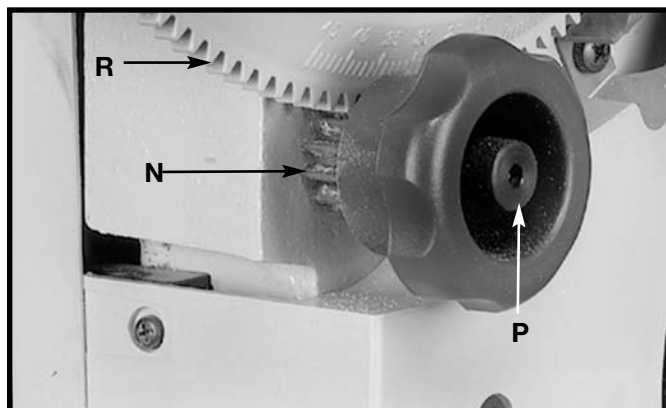

Fig.15
8. Re-assemble the table tilt pinion knob (N) Fig. 15, on the back of saw so that the teeth on the pinion knob (N) engage the teeth on the trunnion (R). Fasten in place with the special screw (P) and spring using the 4mm wrench provided.